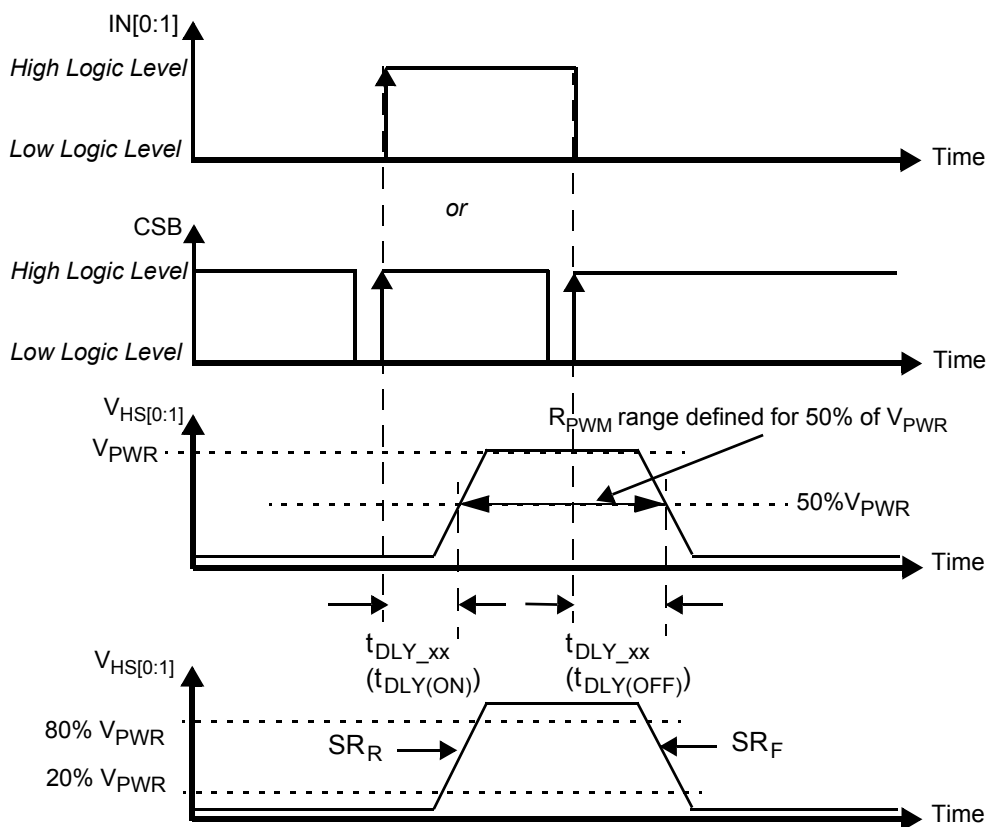
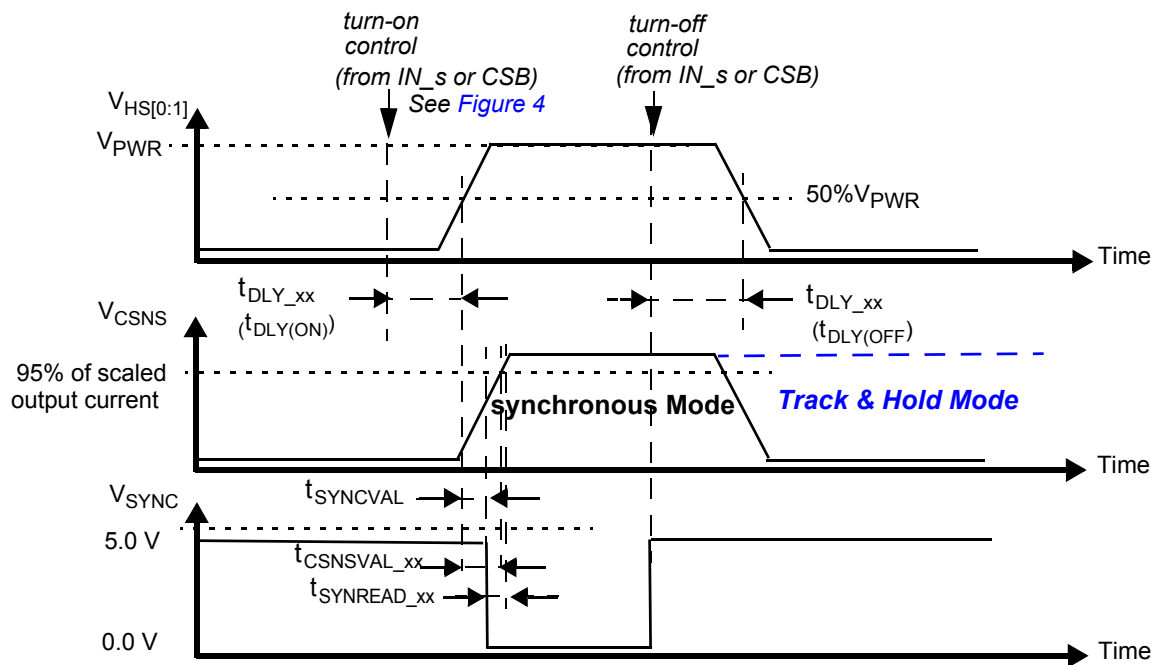

Figure 4. Output Voltage Slew Rate and Delay
Figure 9. Synchronous & Track-and-Hold Current Sensing Modes: Associated Delay & Settling Times
28. Rising and Falling edge slew rates specified for a 20 to 80% voltage variation on a 10 Ω resistive load (see Figure 4).
30. Time required to switch off the channel after detection of overtemperature (OT), overcurrent (OC), SC or UV error (time measured between start of the negative edge on the FSB pin and the falling edge on the output voltage until $V(\text{HS}[0:1]) = 50\%$ of V_{PWR}).
31. Settling time ($= t_{CSNSVAL_XX}$), SYNC output signal delay ($= t_{SYNCVAL_XX}$) and Read-out delay ($= t_{SYNREAD_XX}$) are defined for a stepped load current using a 10 Ω resistive load for $\text{CSNS_RATIO_S} = 0$. (see Figure 9 and Output Current Monitoring \(CSNS\)).
The CS pin allows independent current monitoring of channel 0 or channel 1 up to the steady-state overcurrent threshold. It can also be used to sense the device temperature. The different functions are selected by setting bits CSNS1_en and CSNS0_en to the appropriate value (Table 22). When the CSNS pin is sensed during switch-off in the (optional) track & hold mode (see Figure 9), it outputs the scaled value of the load current as it was just before turn-Off. When several devices share the same pull-down resistor, the CSNS pins of devices, the current of which is not monitored, must be tri-stated. This is accomplished by setting CSNS0_en = 0 and CSNS1_en = 0 in their GCR register (Table 11). Settling time ($t_{CSNSVAL_XX}$) is defined as the time between the instant at the middle of the output voltage’s rising edge ($HS[0:1] = 50\%$ of V_{PWR}), and the instant at which the voltage on the CSNS pin has settled to $\pm 5.0\%$ of its final value. Anytime an overcurrent window is active, the CSNS pin is disabled (see Overcurrent Detection on Resistive and Inductive Loads). The current and temperature sensing functions are unavailable in Fail-safe mode and in Normal mode when operating without the V_{DD} supply voltage. In order to generate a voltage output, this pin requires a pull-down resistor ($R(CSNS)=1.0\text{ k}\Omega$ typ. and $470 < R(CSNS) < 10\text{ k}$). When the current sense resistor connected to the CSNS pin is disconnected, the CSNS voltage is clamped to $V_{CL(CSNS)}$. The CSNS pin can source currents up to about 5.6 mA.
To synchronize current sensing with an external process, the SYNC signal can be connected to a digital input of an external MCU. An open-drain pull-down on SYNC indicates that the current sense signal is accurate and ready to be read. The current sense signal on the CSNS pin has the specified accuracy $t_{SYNREAD_XX}$ seconds after the falling edge on the SYNC pin (Figure 9) and remains valid until a rising edge is generated. The rising edge that is generated by the SYNC pin at the turn-OFF instant (internal or external) may also be used to implement synchronization with the external MCU. Parameter t_{SYNVAL_XX} is defined as the time between the instant at the middle of the output voltage rising edge ($HS[0:1] = 50\%$ of V_{PWR}), and the instant at which the voltage on the SYNC-pin drops below 0.4 V (V_{SOL}). The SYNC pins of different devices can be connected together to save micro-controller input channels. However, in this configuration, the CSNS of only one device should be active at a time. Otherwise, the MCU is not be able to determine the source of the SYNC signal. The SYNC pin requires an external pull-up resistor to V_{DD} .